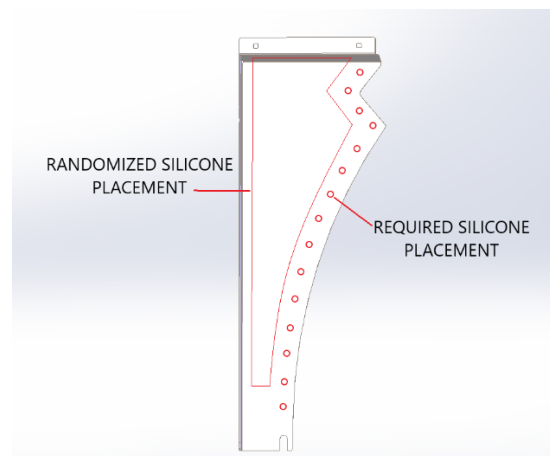

Figure 4 – Silicone Placement Shown
7. Place a generous amount of silicone on the back side of the hood extension panel, as shown below (see Figure 4).